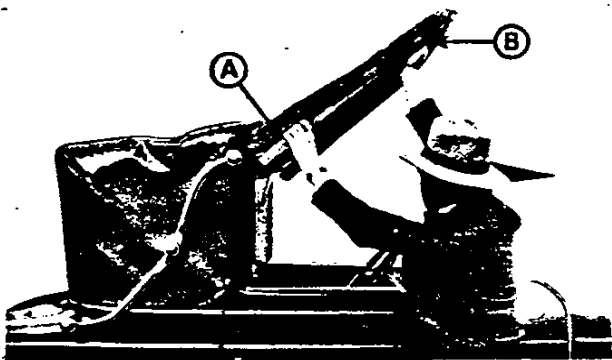
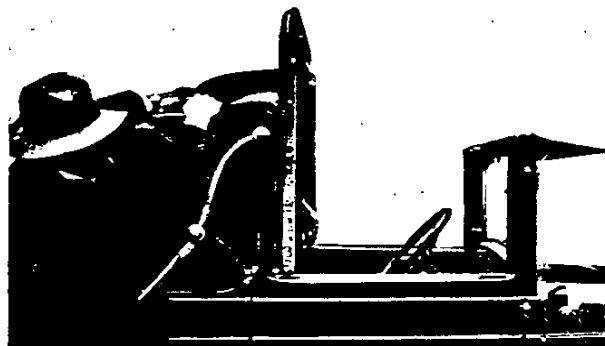

Figure 3
Figure 4
4. Pull down on front bow at point "A" at same time pushing up on same bow at point "B" (Figure 3), and fold top material neatly to outside and back. (Figure 4.)
5. Move front bow to position shown in Figure 4.